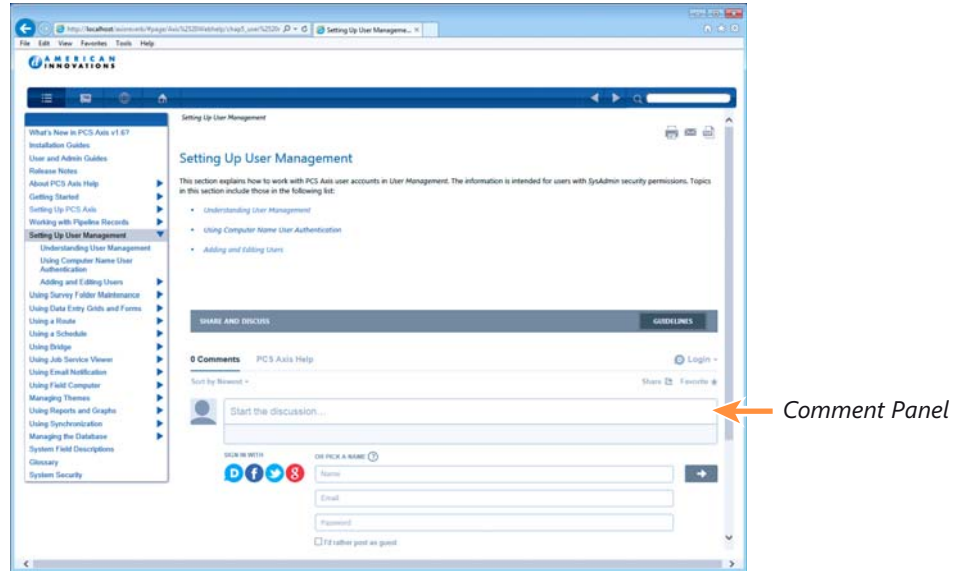

Figure 1-4. Posting a Comment as a Guest
- 2 In the comment panel of the selected help topic, type a comment in the text box **Start the discussion** (Figure 1-4, page 9).
- a Click the **Name** text box to display fields requiring data entry (Figure 1-4, page 9).